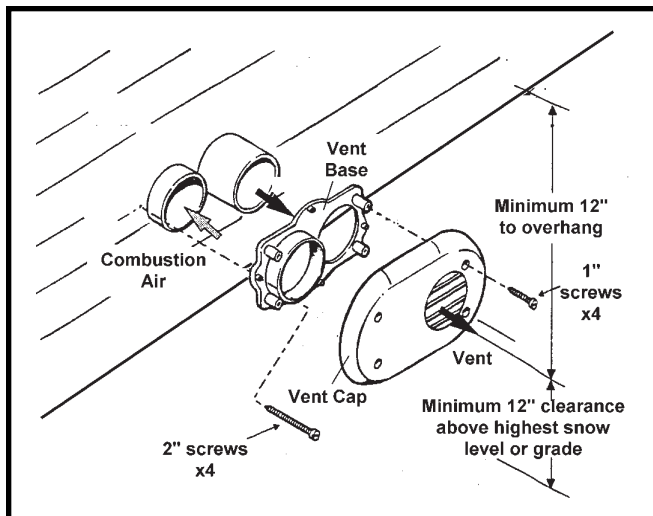

Figure 2. Vent Kit installation
- Assemble the vent terminal cap to the vent terminal base, using the four short screws provided (#8 pan head, 1" long, SMS Type A 18-8 stainless steel). See Figure 2.